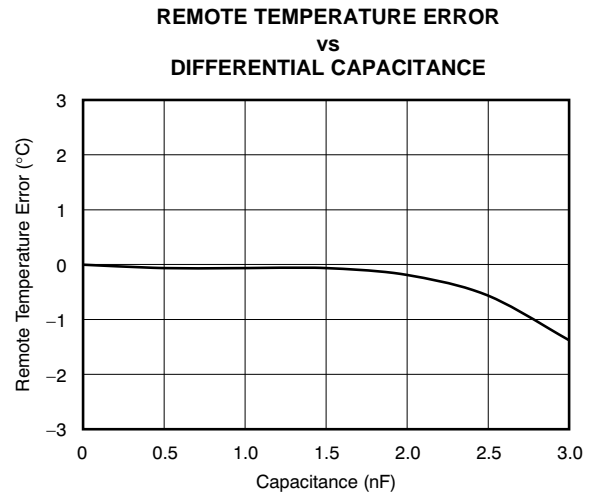

Figure 6.
(1) Diode-connected configuration provides better settling time. Transistor-connected configuration provides better series resistance cancellation.
(3)  $C_{\text{DIFF}}$  (optional) should be  $< 1000\text{pF}$  in most applications. Selection of  $C_{\text{DIFF}}$  depends on application; see the Filtering section and Figure 6, Remote Temperature Error vs Differential Capacitance.
(4) TMP422 SMBus slave address is `1001 100` when connected as shown.
The TMP422 tolerates differential input capacitance of up to 1000pF with minimal change in temperature error. The effect of capacitance on sensed remote temperature error is illustrated in Figure 6, *Remote Temperature Error vs Differential Capacitance*.